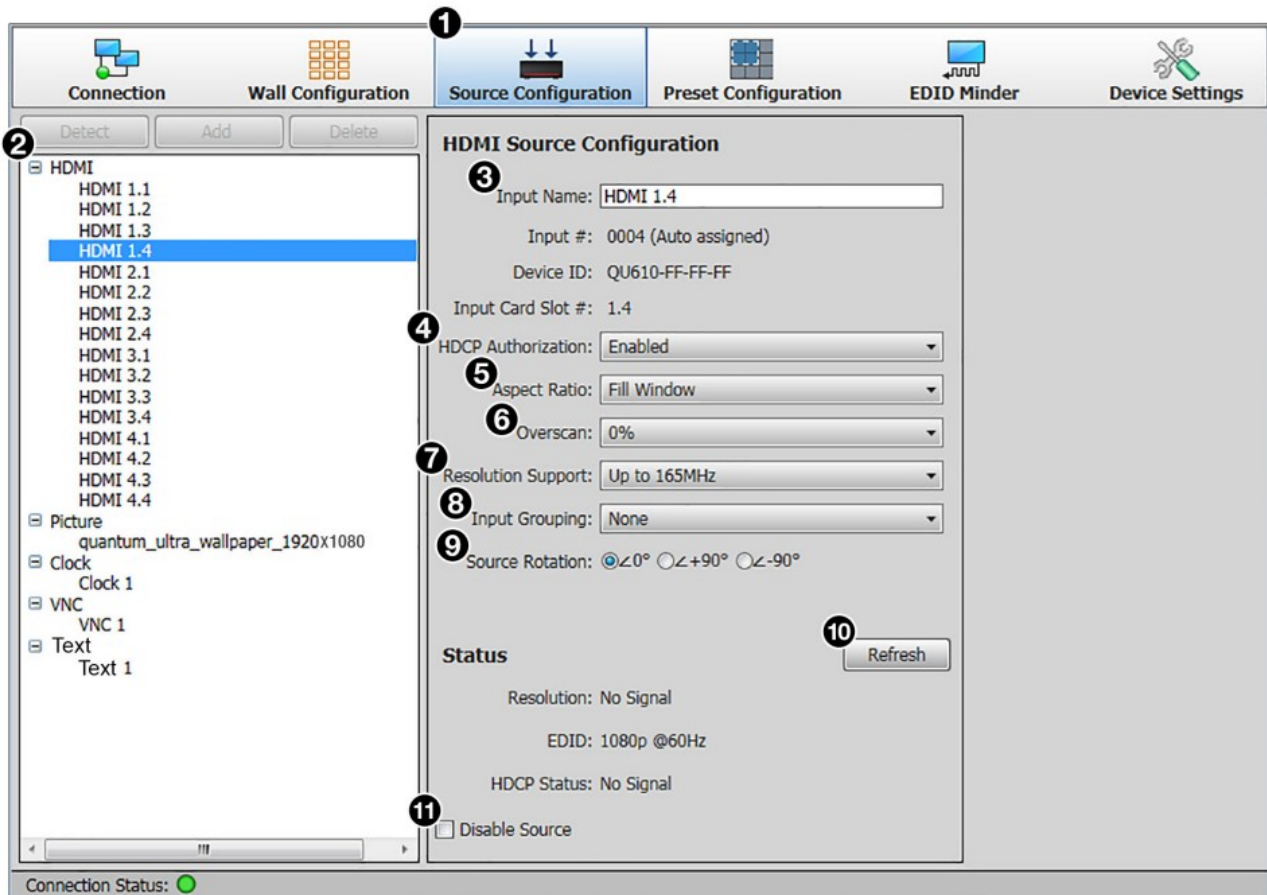

Figure 4. Source Configuration Window
The Quantum Ultra detects the number of HDMI connectors in the Quantum Ultra chassis and displays them in the Source Configuration Tree (left panel of the source workspace, see figure 4, 2). By default, sources are named according to the slot number followed by the input connector number, (for example, HDMI 1.2 indicates that the HDMI source is attached to HDMI input connector 2 on the card in slot 1).
1. Configure the HDMI inputs. In the Source Configuration Tree, click the source name to be configured. If necessary, click the + sign to the left of HDMI in the source tree to expand the HDMI source list. The HDMI Source Configuration panel opens in the center panel of the Source Configuration screen, with the name of the source entered in the Input Name field. The following items can be configured or selected for an input (see figure 4):